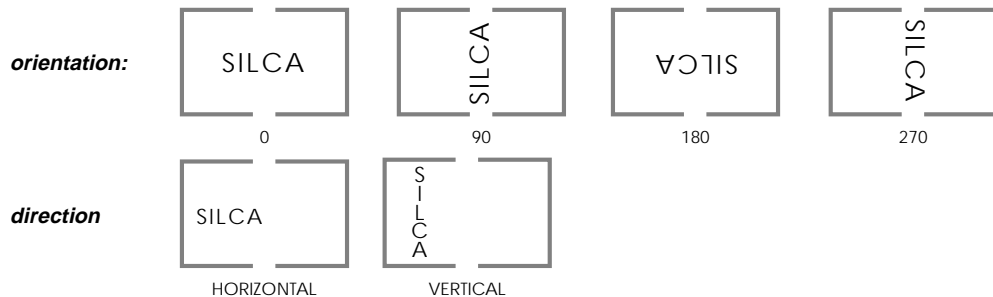

Fig. 20
**O = orientation** (see fig. 20)
**DIR = direction** (see fig. 20)